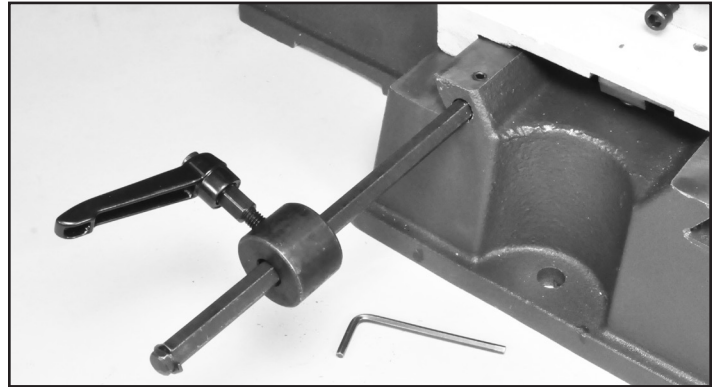

FIG. 6
2. Loosen the two Set Screws (#56) that are located on the machine base's dovetail way, just above the holes bored to take the stop rods. FIG. 6.
3. Insert the stop rods into the base holes and secure them in place by tightening the set screws that were loosened in step 2. FIG. 6.